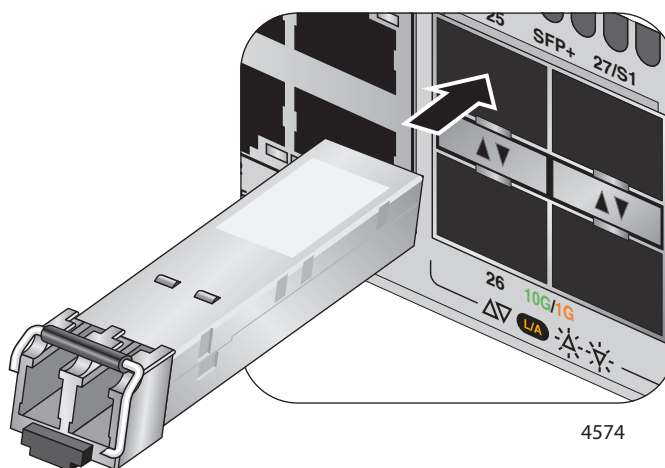

Figure 53. Installing an SFP Transceiver
3. If you are installing the transceiver in a top port, position the transceiver with the Allied Telesis label facing up. If you are installing the transceiver in a bottom port, position the transceiver with the label facing down. Refer to Figure 53.